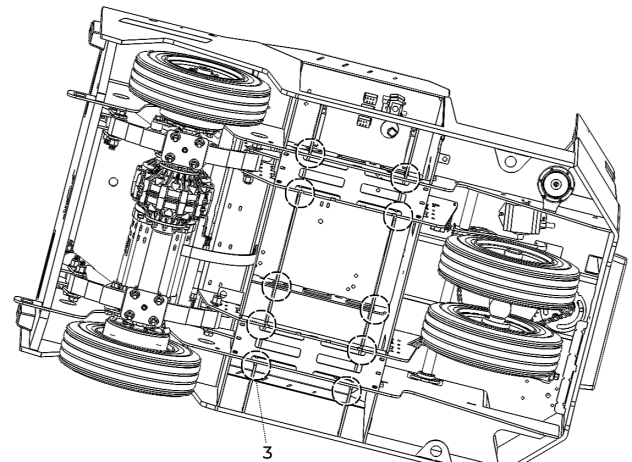

Figure 30. Weld Zones.
- Weld zones (3) (see Figure 30, not all welds are shown).